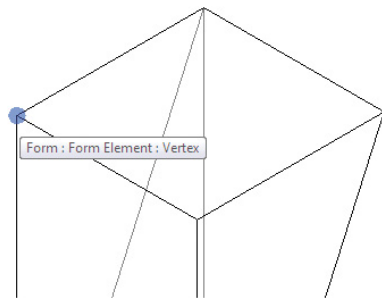

FIGURE 7.24 Selecting the vertex
4. Select the North or Right face to add an edge from the top-right corner to the lower-left corner (see Figure 7.24).
5. As you hover your mouse pointer over the right face's top-left intersection, a vertex control appears as a purple dot (see Figure 7.24).